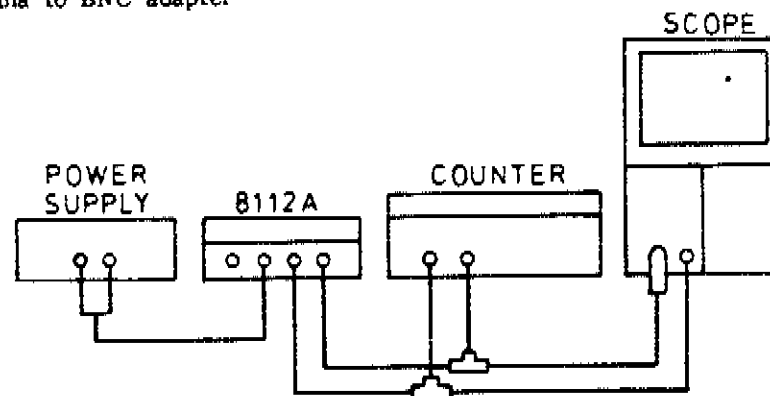

Figure 4-12. Equipment setup for Delay Control performance test.
1. Connect the equipment as shown in Fig. 4-12.